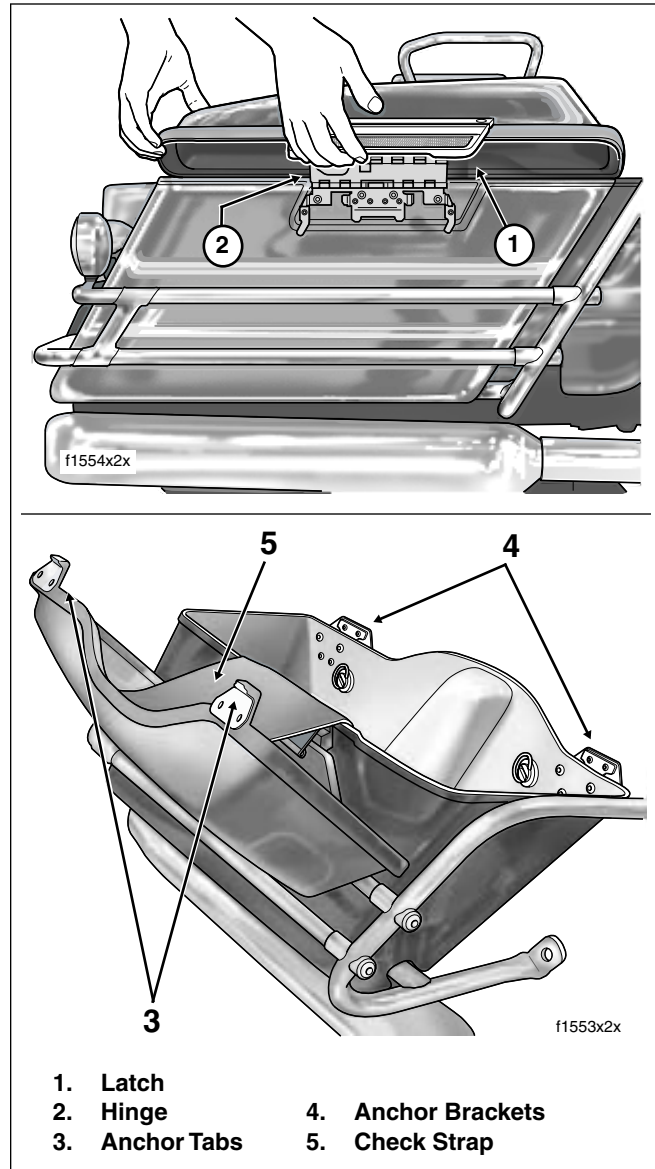

Figure 2-135. Open Saddlebag (FLHR, FLHX, FLHT/C/U, FLTR)
2. Pull bottom of latch outward and then lift upward raising outboard corners of saddlebag lid. See upper frame of Figure 2-135.
- Pivot lid on latch hinge to open. A nylon check strap suspends the lid in the open position. See lower frame of Figure 2-135.
- Rotate lid to closed position engaging both anchor tabs with bottom of anchor brackets. Press bottom of latch inward until it snaps closed. See lower frame of Figure 2-135.